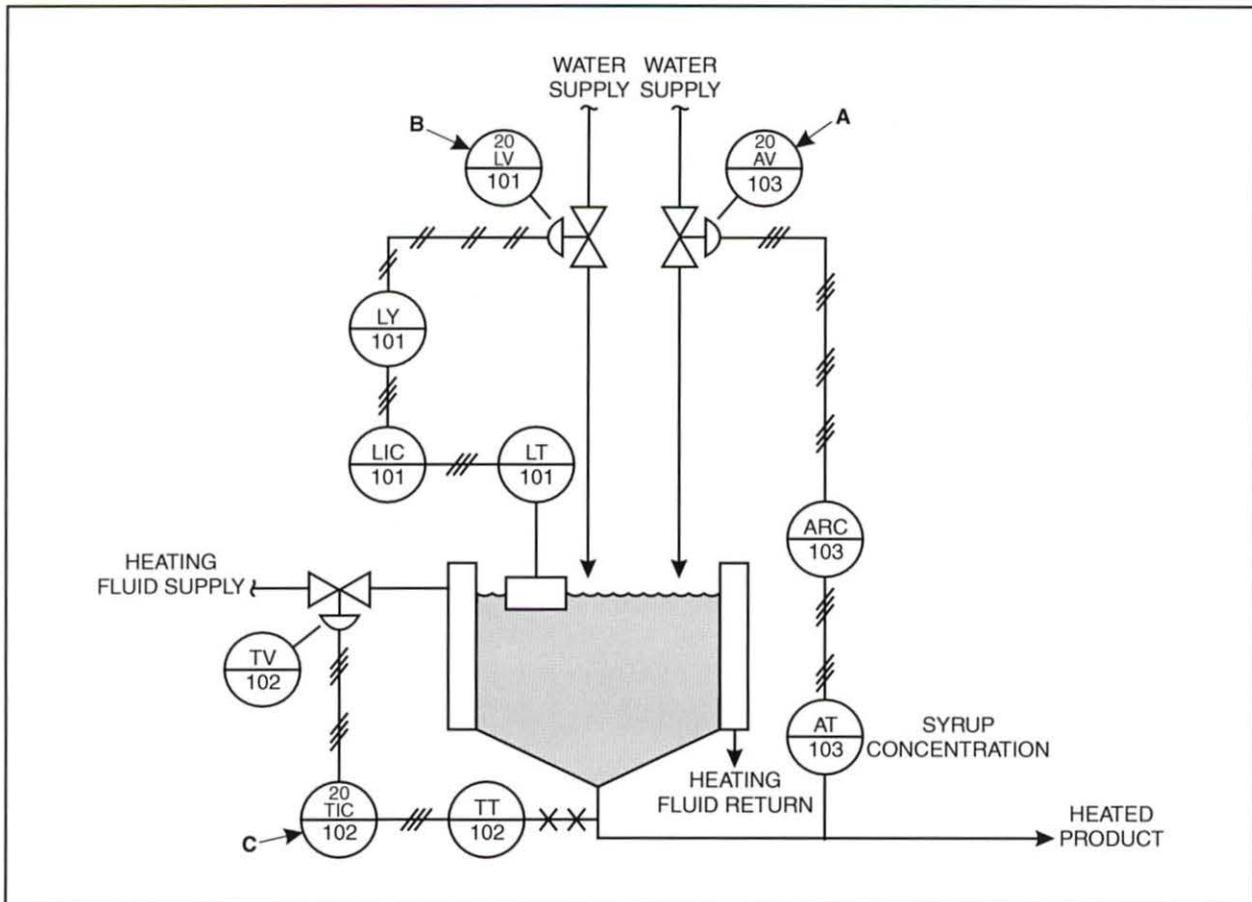

Figure 82. Heating and Mixing System P&ID
8. Determine the loop and area number indicated by each tag shown in figure 82.